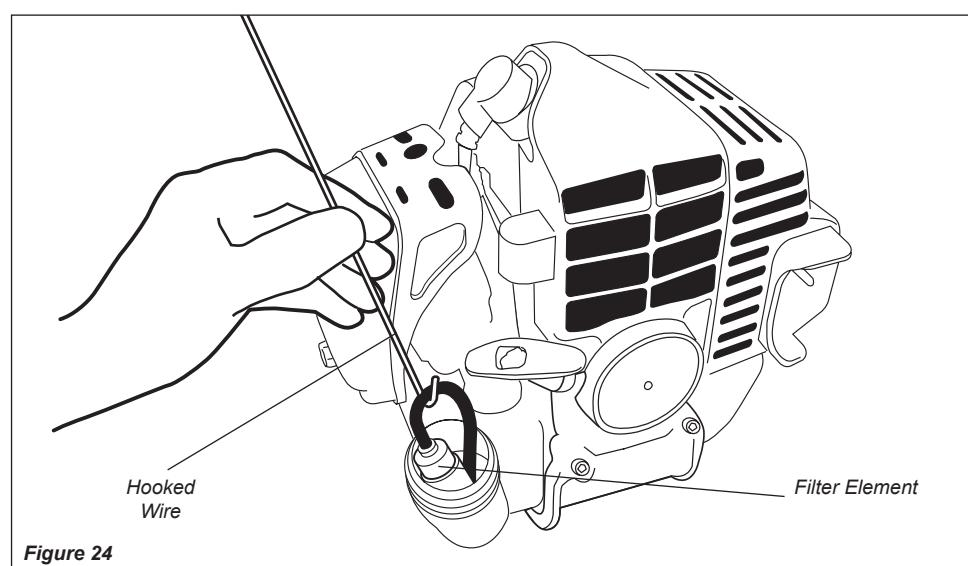

Figure 24
1. Use a hooked wire to extract the fuel filter from inside the fuel tank. See Figure 24.